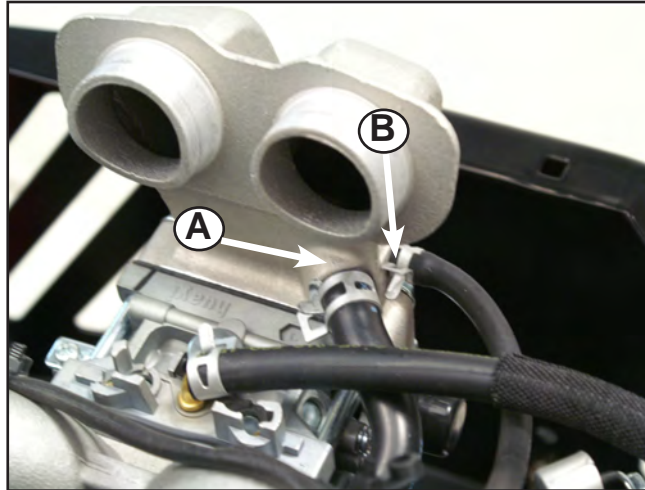

Figure 40
1. Install the gasket onto the intake manifold studs (Figure 40).
**NOTE:** Slide the breather vent hose (A) (Figure 40) over the fitting on #1 head while installing the manifold.